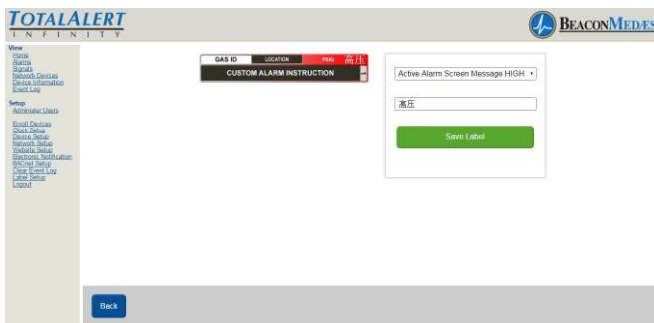

Figure 248
18. To save, select “Save Label” button. (See Figure 248)